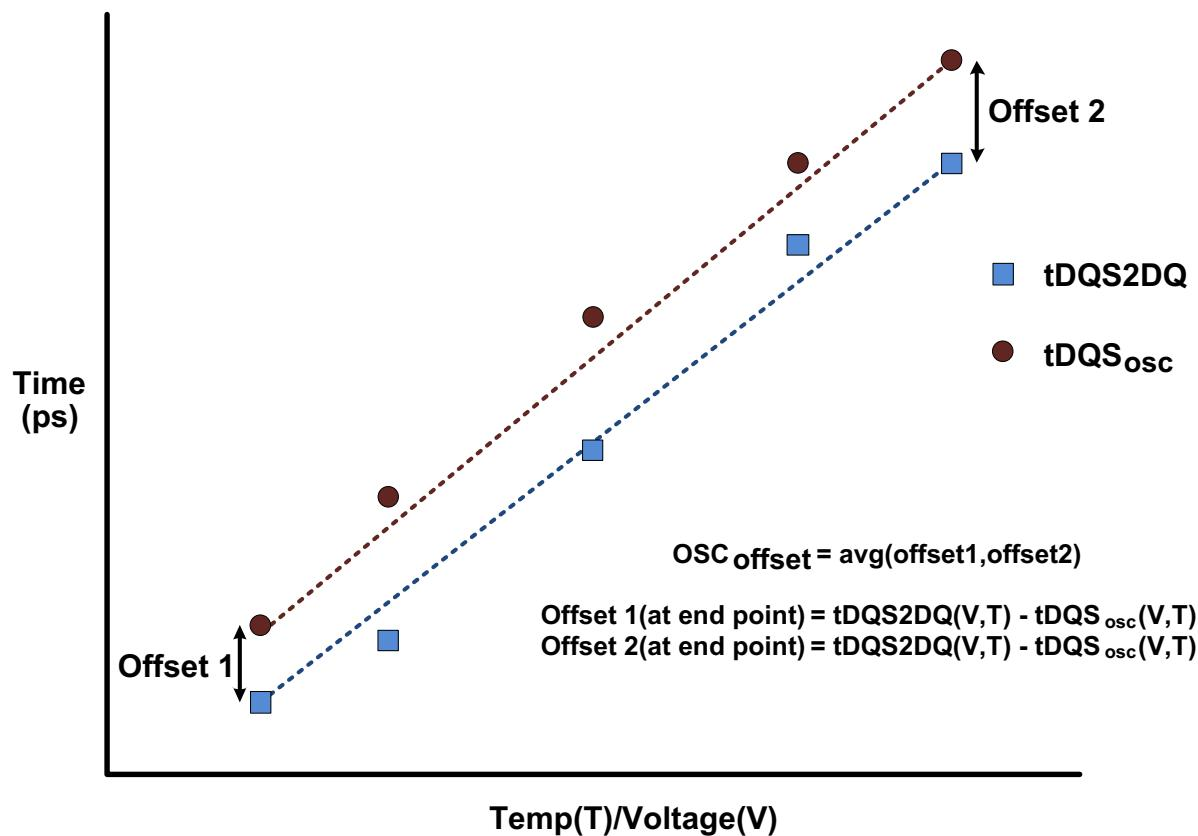

Figure 68 — Interval oscillator offset OSCoffset
- OSCOffset: Average delay difference over voltage and temp(shown in Figure 68)